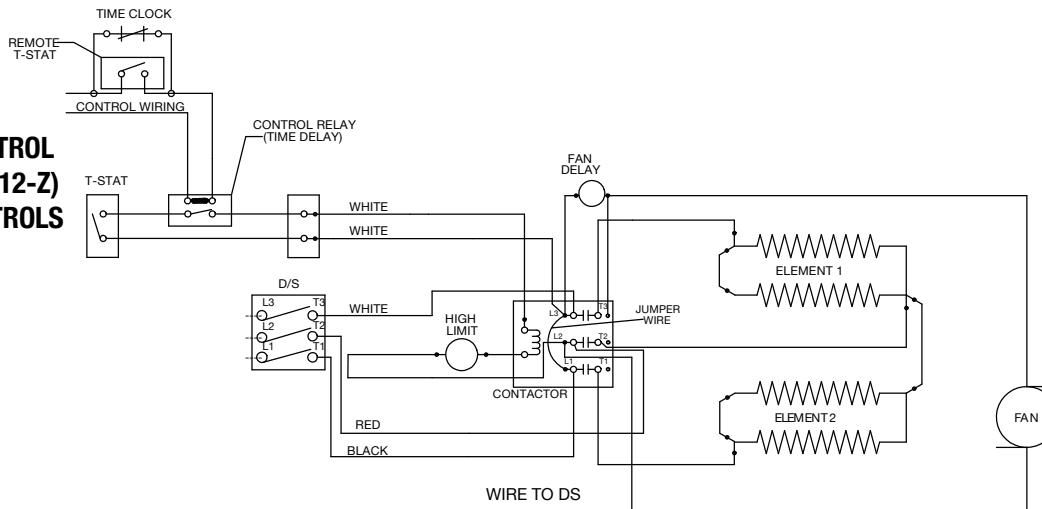

Figure 6
3. For night setback operation, refer to wiring diagram, Figure 6.